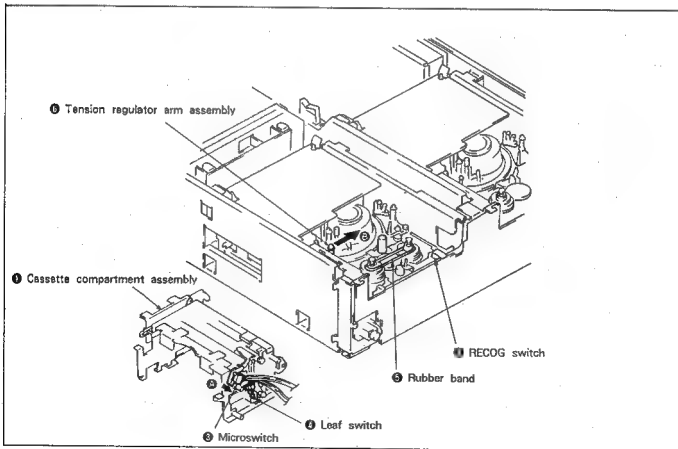

Fig. 7-1.
1. Loading (See Fig. 7-1.)
- 2) Remove the cassette compartment assembly ① according to Section 2, DISASSEMBLY 2-15. (Do not remove connectors.)
- 4) Apply tape to the RECOG switch ④ to keep the pin pressed down.
- 5) Push microswitch ③ once in the direction of arrow ② and release. (See Fig. 7-1.)
- 6) Turn on the leaf switch ⑤. (See Fig. 7-1.)
2. Putting into playback state (See Fig. 7-1.)
3. Eject (See Fig. 7-1.)